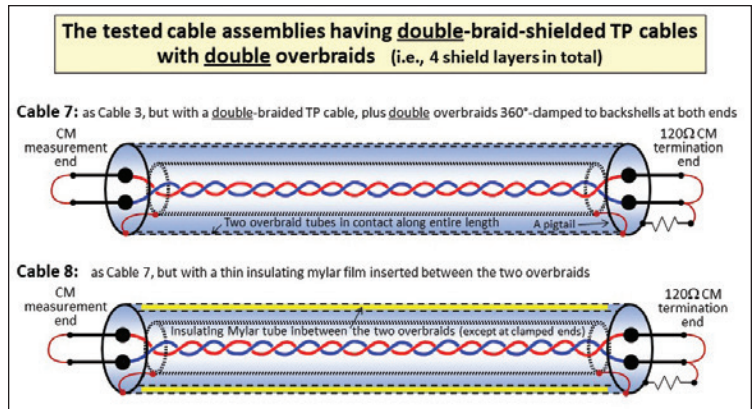

Figure 6: The cable assemblies having double-braid-shielded TP cables with double overbraids (i.e., four braided shield layers in all)
**Cables 7, 8, and 9: double-braid-shielded TP cables with double overbraids (i.e., four shield layers in total) (See Figures 6, 14, and 15)**